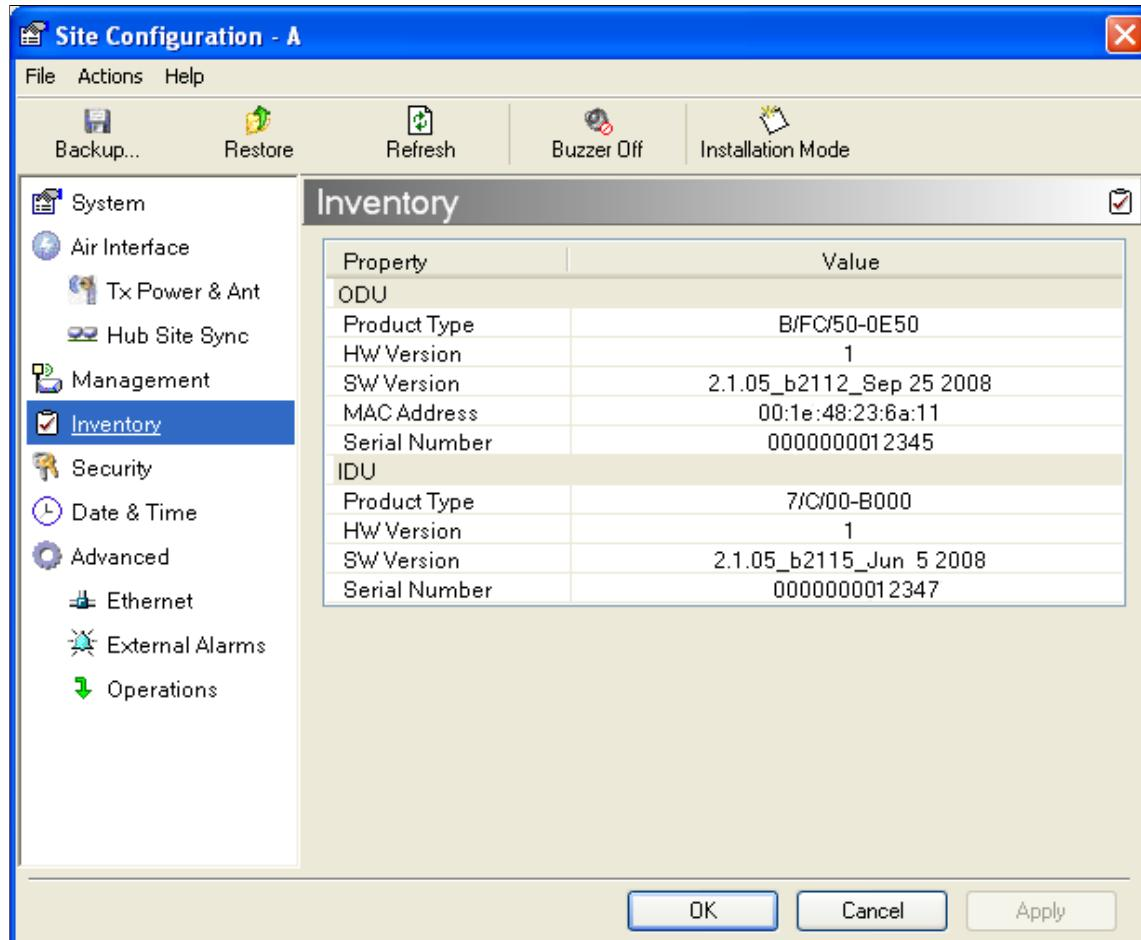

Figure 6-10: Inventory Screen
2. Choose Inventory (figure 6-10).